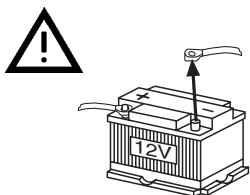

Fig. 1
Connect the fuse holder (**1A fuse**) to protect the positive cable (permanent (1), see Fig. 1). The fuse holder should be connected to the positive terminal at a distance of max. 30 cm from the vehicle battery (if necessary, drill a hole in the bulkhead and use the appropriate cable grommets).
Connect the switching positive cable (2) (see Fig. 1) to the switching positive output (ignition ) of the main device (e.g. car radio or navigation device). If connecting to terminal 15 of the vehicle, protect the switching positive cable (2) by installing a fuse holder (1A fuse) at a maximum distance of 20 cm from the point of connection.
Attach the negative cable (1) (earth/GND, (3), see Fig. 1) directly to the vehicle body using a screw. Scratch the surface down to the bare metal at the point at which the ground is made.